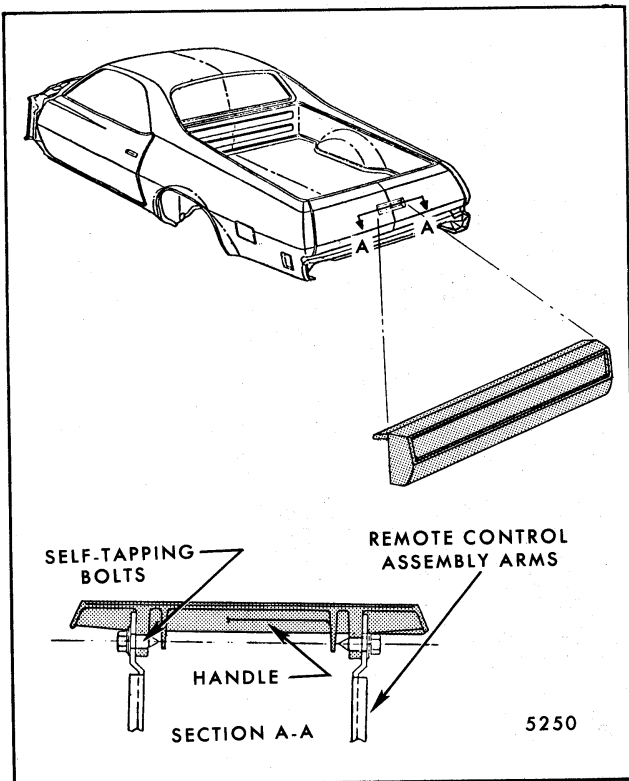

Fig. 7-107 - Tailgate Outside Handle
3. Remove two self-tapping bolts securing outside pull handle to lock remote control assembly and remove handle (Fig. 7-107).